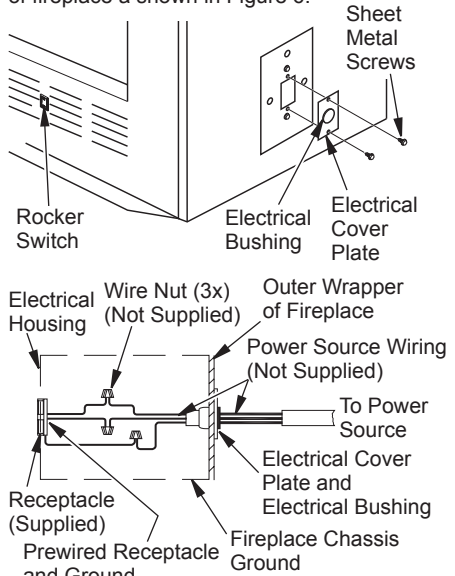

Figure 6 - Fan Switch-Electrical Bushing
Fan or blower kit is optional with this fireplace (for circulating models only). Use of blowers or fans other than those manufactured by Style Crest, Inc voids warranty. Fan is operated by pressing rocker switch (see Figure 6) in lower right hand corner of fireplace face. Blower is operated by turning control knob (not shown).
Fan/blower kit electrical connections are made through electrical cover plate on side of fireplace as shown in Figure 6.
1. Remove electrical cover plate with bushing from fireplace by removing 2 sheet metal screws as shown in Figure 6.
3. Slide all wiring connections in electrical housing as shown in Figure 6.